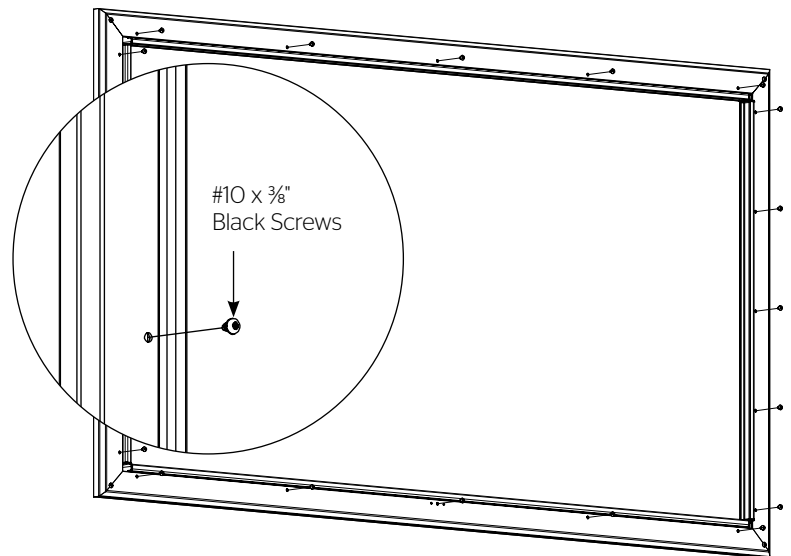

Figure 5
3. Secure the outer bezel to the inner frame by inserting the #10 x 3/8" black screws into each of the large holes on all four sides of the screen (Figure 5).